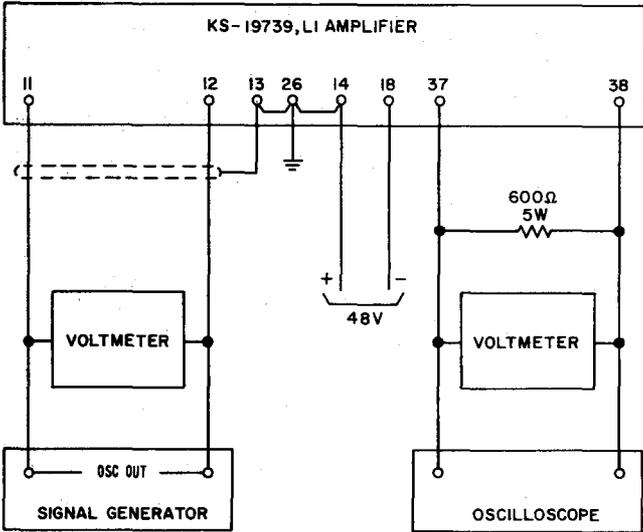

Fig. 2—Test Setup for Gain-Frequency, Power Output, and Output Regulation Tests
5.01 The test setup for this test is shown in Fig. 2. This test is conducted with the amplifier set at maximum gain. The test is performed as follows:
2	Connect the 600-ohm, 5-watt resistor and model 400 voltmeter across the amplifier output terminals 37 and 38. See Fig. 2.
6.01 The test setup for this test is shown in Fig. 2. This test is conducted with the
1	With all the test equipment connected as in the previous test (except the voltmeter across the input terminals), connect an oscilloscope across the 600-ohm, 5-watt terminating resistor and the model 400 voltmeter. See Fig. 2.
7.01 The test setup for this test is shown in Fig. 2. This test is conducted with the
1	Connect the test equipment as described in the previous test. See Fig. 2.